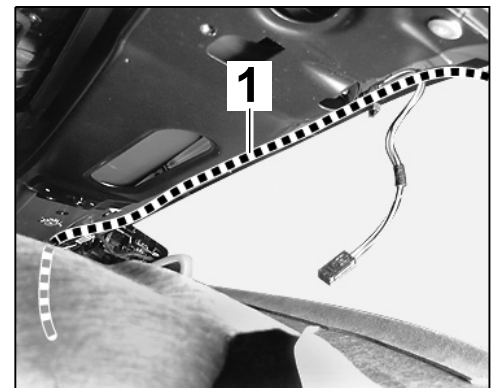

Figure 9
- 2.3.1 Carefully pull down the headliner and route antenna line ⇒ *Figure 9*